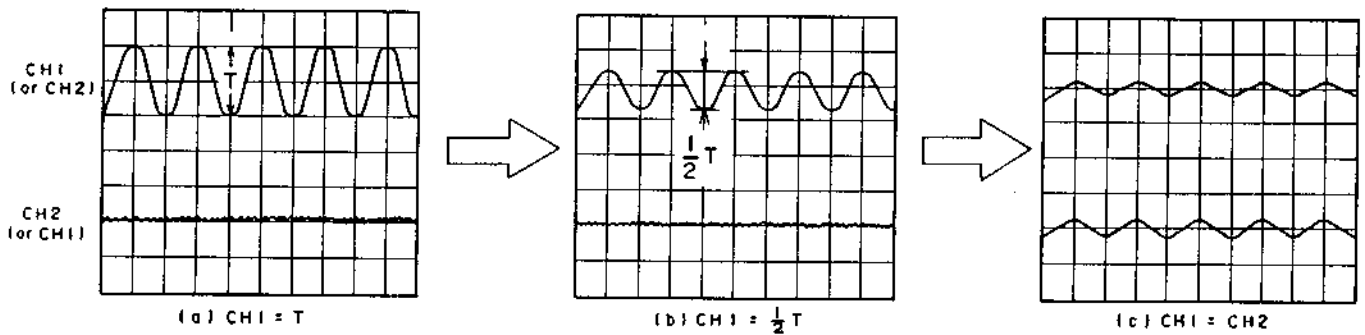

Fig. 5-14
- 3) Turn the hexagon screw to obtain 1/2 of the output level of either CH-1 or CH-2 whichever has an output signal as shown in Fig. 5-14. Then set the oscilloscope's both channel to 100 mV / div and fine-adjust the hexagon screw until both signals of CH-1 and CH-2 are nearly the same level.